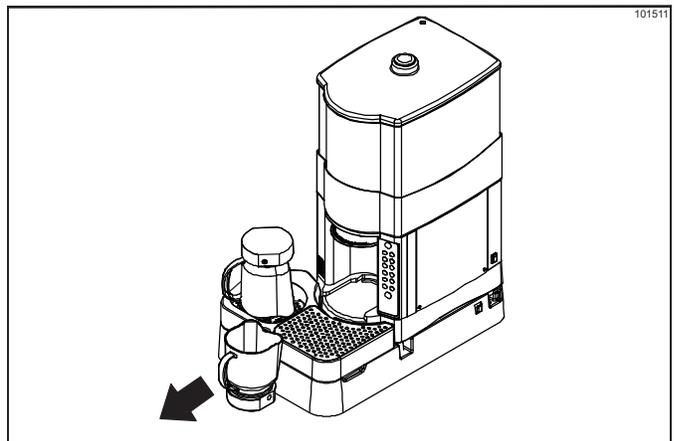

Figure 6-4
- Remove the blender pitchers. Discard any remaining product into the back sink. Take the pitchers to the sink for cleaning. (See Figure 6-4.)